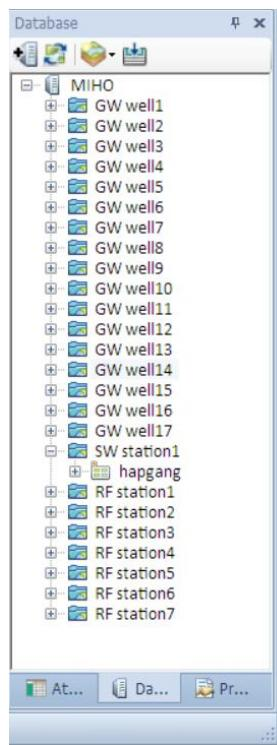

Figure 6-10. The loaded MIHO database.
- 2) Click the Open an ODM database button, locate to the Tutorial\Database folder and select the “MIHO.mdb” file in the prompted dialog. After the database loaded, all stations and observed time series made at these stations are presented in the Database Manager in a tree-view (Figure 6-10).